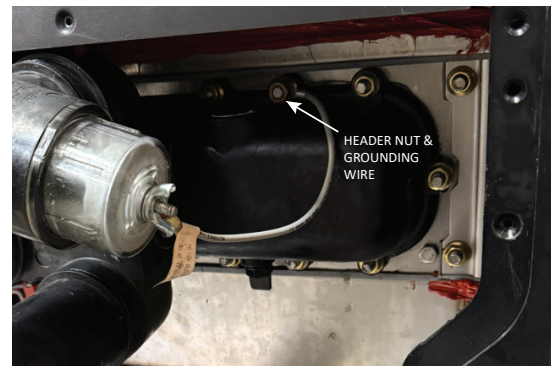

Figure 4. Remove Grounding Wire from Header
9. Using a 5/16" nut driver, remove the header nut securing the grounding wire to the heater's inlet header (See **Figure 4**).